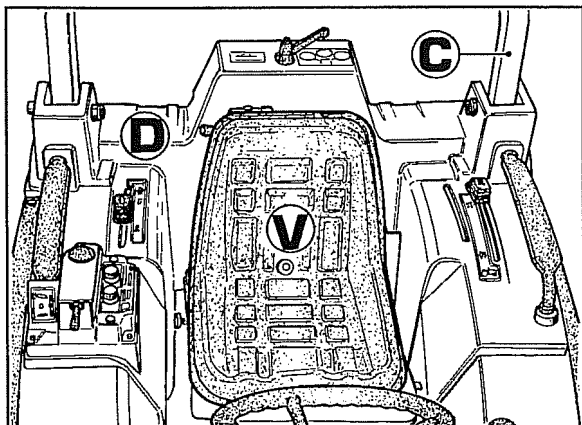

Fig. 7
2. Remove the seat **V** Fig. 7.
3. Remove roll-bar **C** and the fibreglass casing **D** Fig. 7 after removing the various grips, handles and the lift control mounting.